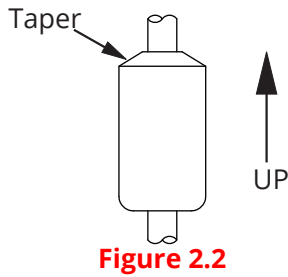

Figure 2.2
- The float(s) is/are oriented properly on the stem (See Figure 2.2). MPXI-F floats are installed by customer.
- Slide floats onto stem. If using two floats, slide the lighter float on first. Tops of floats will be indicated by sticker, taper, or etching on float. (See Figure 2.2) After ensuring top of float is toward MPXI-F sensor head, remove sticker(s).